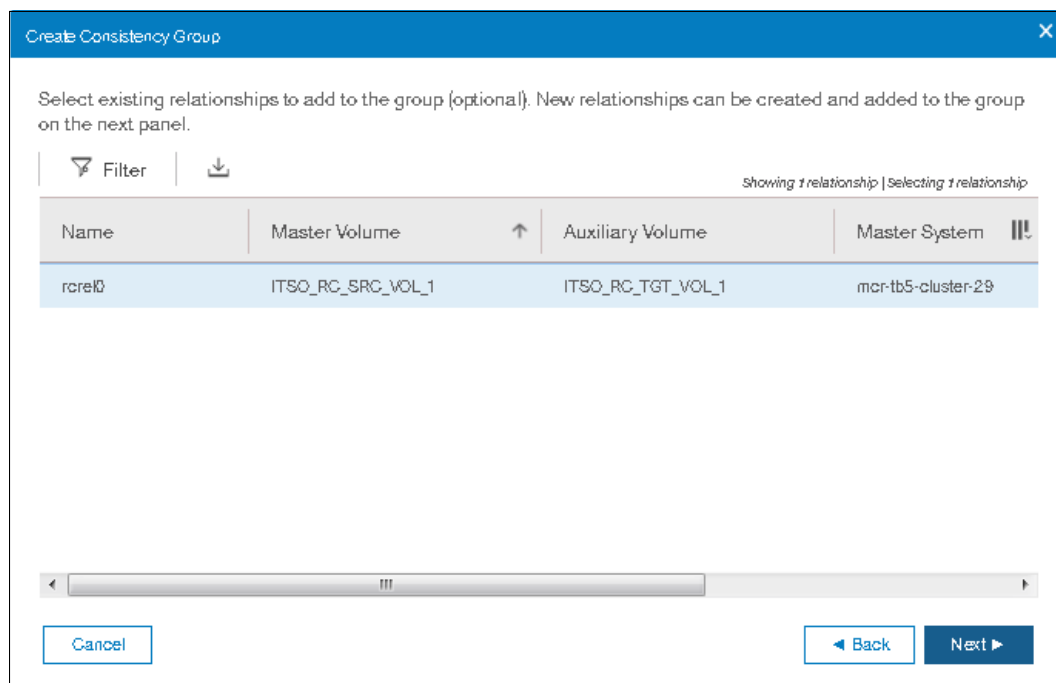

Figure 10-117 Select existing relationships to add to the group
7. As shown in Figure 10-117 on page 574, you can optionally select existing relationships to add to the group. Click **Next**.